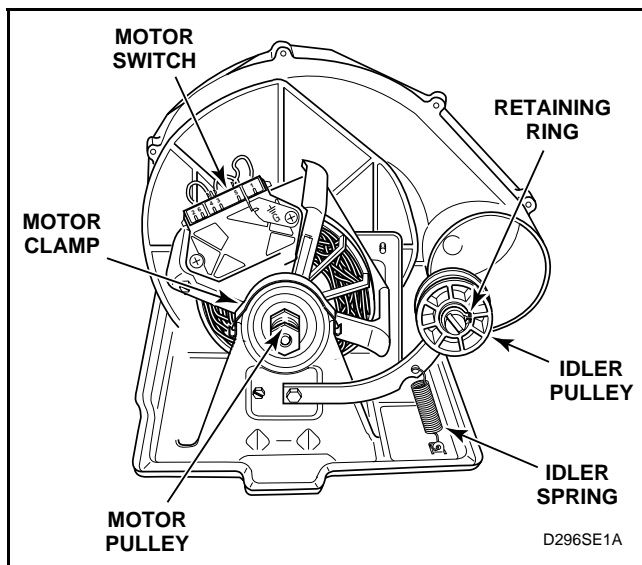

Figure 22
- Disengage motor wire harness terminal block from motor switch by pressing in on the movable locking tabs (located on each end of the terminal block) and pulling away from motor. See *Figures 22 and 24*.
See *Figure 22* for motor and idler pulley removal.
- (2.) Pry two motor clamps off motor mounting bracket with screwdriver. See *Figure 22*, then lift motor out of mounting bracket.
- Disengage belt from motor and idler pulley. See *Figure 22*.